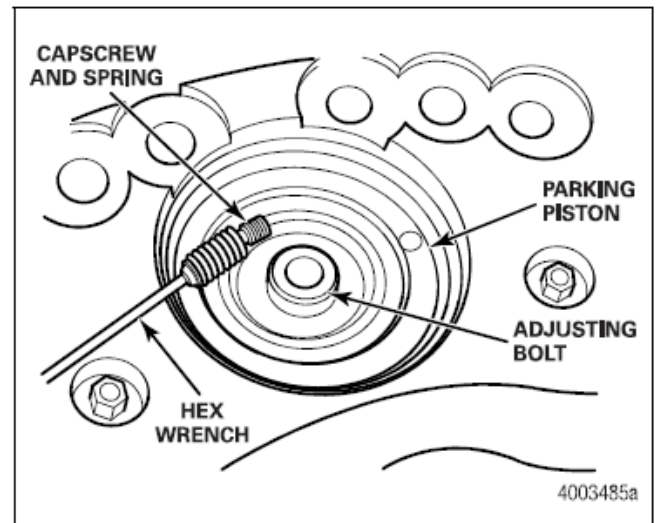

Figure 5.11
27. Install the spring onto the shoulder bolt. Apply Loctite 272 to the threads. Insert the shoulder bolt and spring into the adjusting bolt. Figure 5.11.